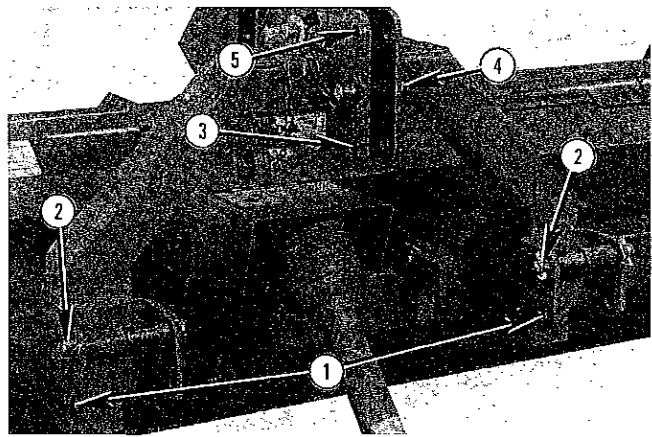

FIGURE 35
Generally, the LOWERMOST link pin hole (1) is appropriate for tractors with smaller tires and/or less lift range. The UPPERMOST link pin hole (2) is generally appropriate for tractors with larger tires and/or greater lift range. Refer to figure 35.